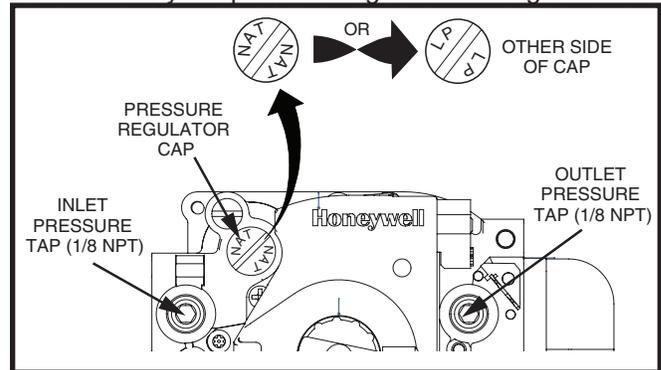

Figure 27. Honeywell Gas Valve
- Plugged tappings (1/8" NPT) for test gauge connection are present on the gas valve. See Figure 27 for locations.
This furnace can be converted from factory-equipped natural gas to liquid propane gas. Conversion of this valve requires replacement of the burner orifice and flipping the regulator cap to the side marked LP. The orifice required for conversion is supplied with the furnace. See Figure 27.
- letters NAT or LP. See Figure 27 \(page 15\).
1. Remove the inlet pressure plug from the INLET side of the gas valve with a 3/16 Allen wrench. See Figure 27.
1. Remove the manifold pressure plug from the outlet side of the gas valve with a 3/16 Allen wrench. See Figure 27 \(page 15\).